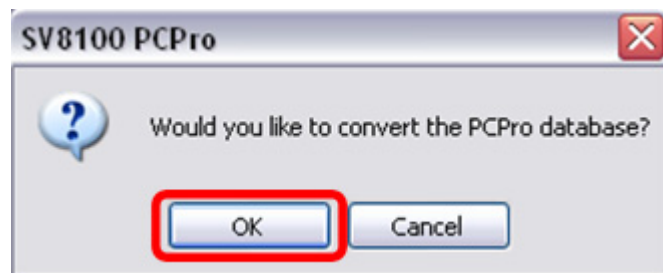

Figure I-7 Conversion Confirmation
3. Click the **OK** button that is depicted on Figure I-7 - Conversion Confirmation.